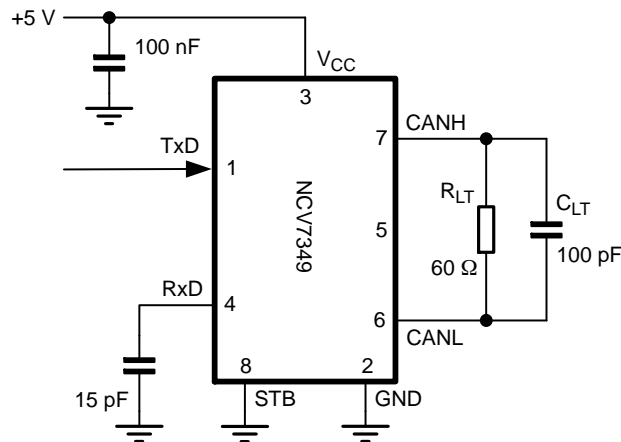

Figure 8. Test Circuit for Timing Characteristics
**TIMING CHARACTERISTICS (see Figure 5 and Figure 8)**
TIMING CHARACTERISTICS (see Figure 5 and Figure 8)